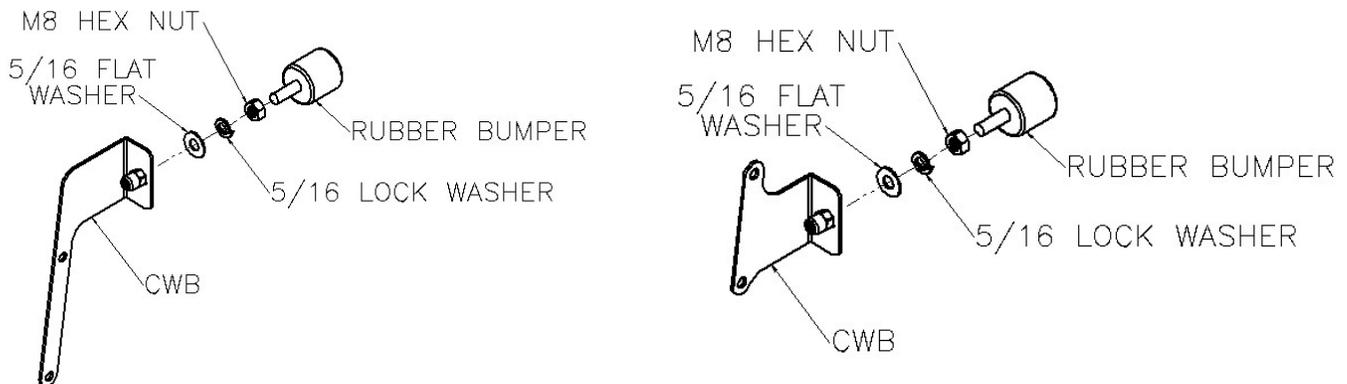

Figure 2: Rubber Bumper Assembly (CWB Shown)
2. Assemble the rubber bumpers and hardware onto the CWB, DOB, & POB brackets as shown in Figure 2. Thread the bumpers as close to the brackets as possible to make visor installation easier.